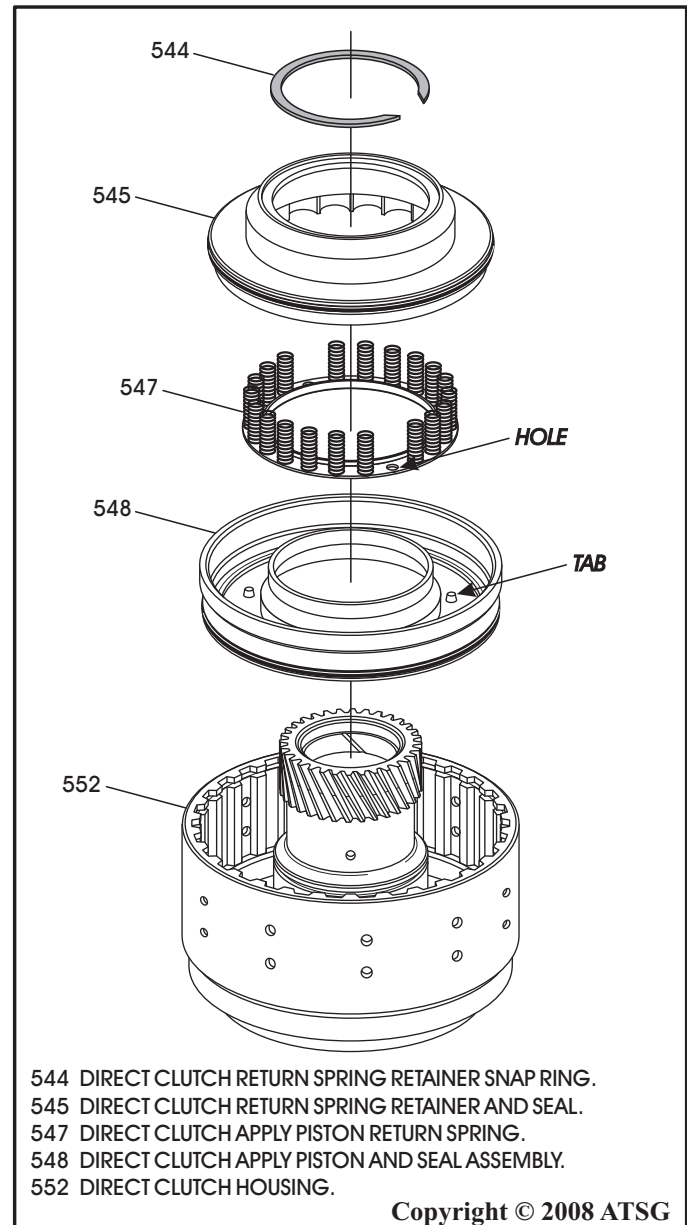

Figure 139
5. Lube seals and install the direct clutch piston in direct clutch housing, as shown in Figure 139.
6. Install the direct clutch piston return spring, as shown in Figure 139, and ensure that holes in return spring align with tabs on piston.
7. Install direct return spring retainer, as shown in Figure 139.
8. Compress the assembly and install the snap ring, as shown in Figure 139.